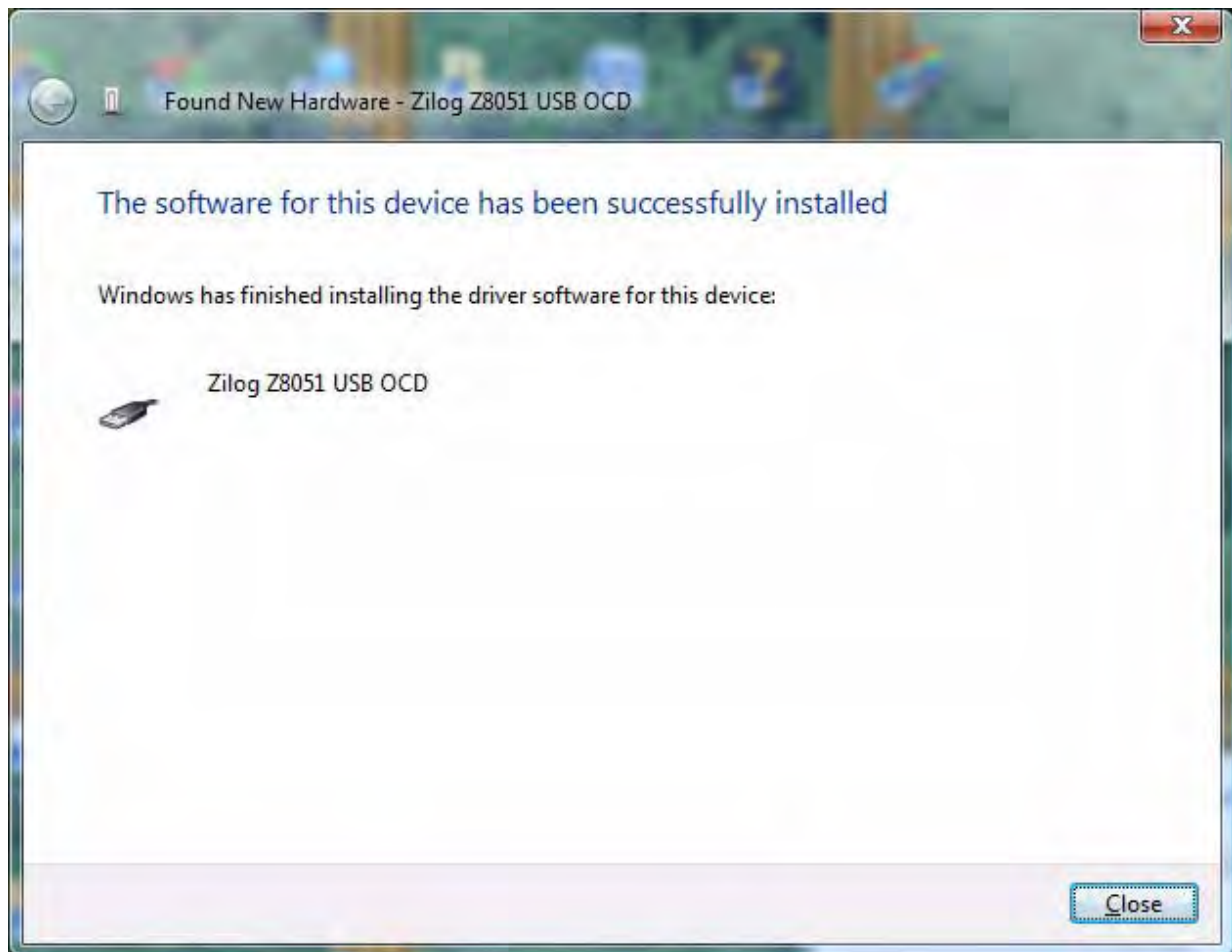

Figure 7. Successfully Installed Dialog, Windows Vista
5. When the installation is complete, the screen shown in Figure 7 will appear. Click **Close** to exit the OCD driver installation.
► **Note:** On some installations, the Found New Hardware screen shown in Figure 7 may also display the text string, `zilog z8051 usb ocd - No Firmware`. This occurrence is normal and can be disregarded.